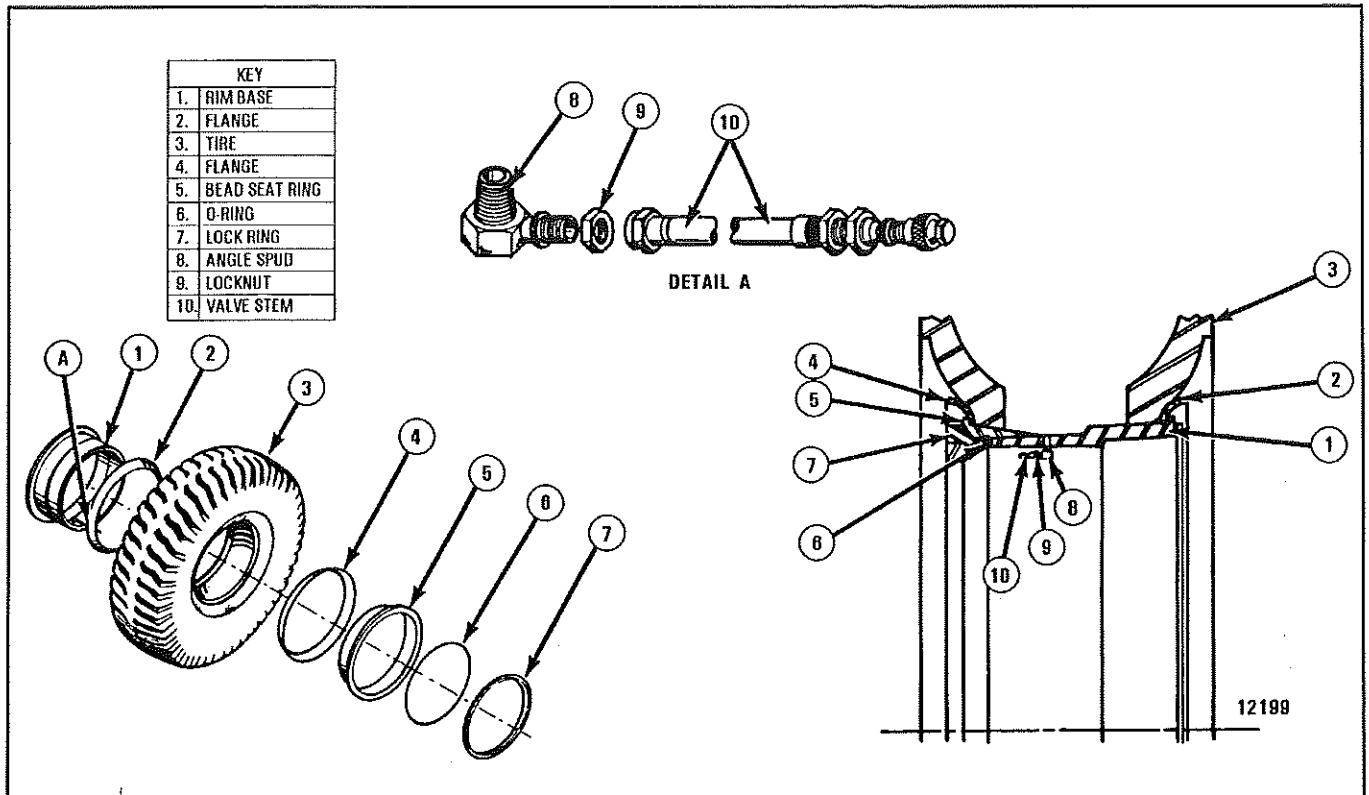

FIGURE 1 - TYPICAL FRONT TIRE AND RIM ASSEMBLY (12199)
**ASSEMBLY** (Figures 1 and 2)